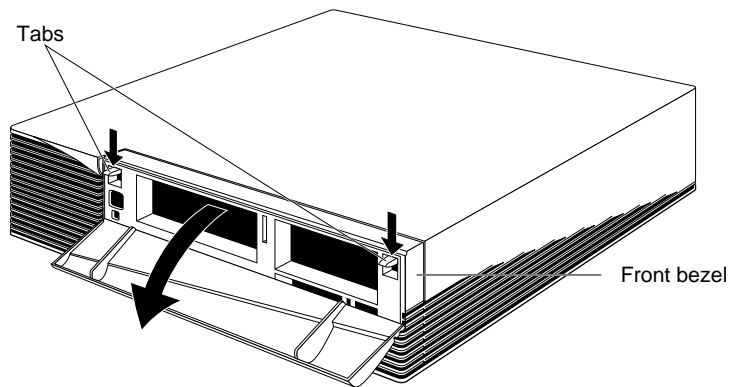

Figure 5-1 Removing the Front Bezel From the Indigo² Chassis
1. Press down on the tabs on each side of the bezel, as shown in Figure 5-1.